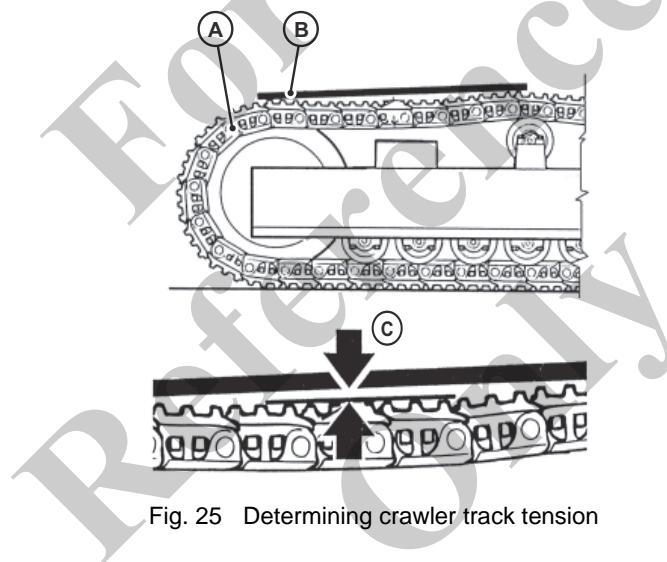

Fig. 25 Determining crawler track tension
- 2 Place a straight edge (B) in Fig. 25 on crawler track A.
- 3 Measure the distance (C) in Fig. 25 (sag) between track roller and chain link.